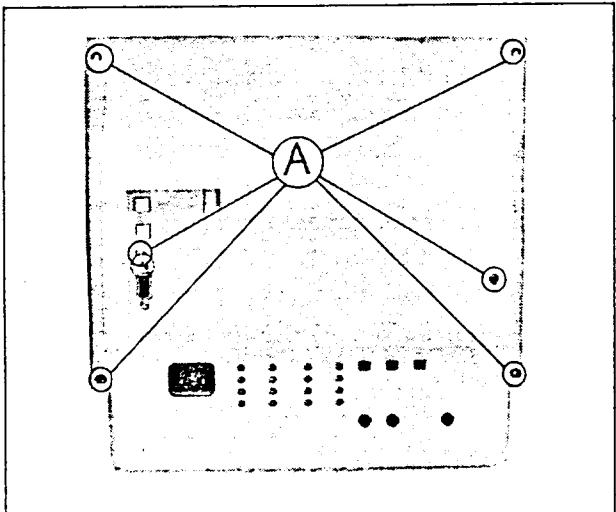

FIG. 1
1. Unplug the power supply cord and unscrew the six screws marked **(A)** shown in Fig. 1.